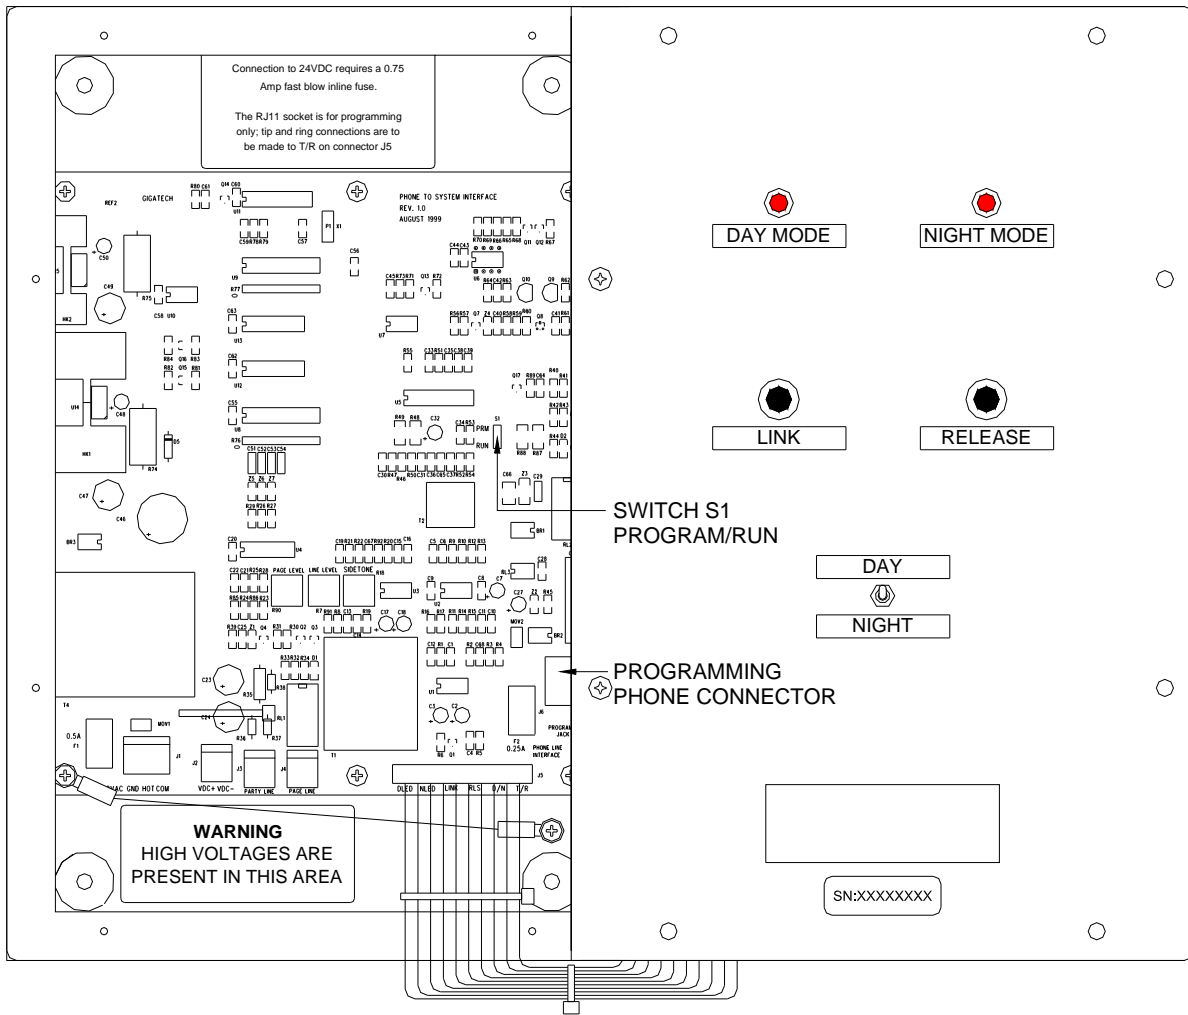

Figure 8 - Programming Setup (Wall Mount)
- 2) Secure the left edge of the faceplate to the right side of the enclosure with two screws, as illustrated in Figure 8 - Programming Setup (Wall Mount).